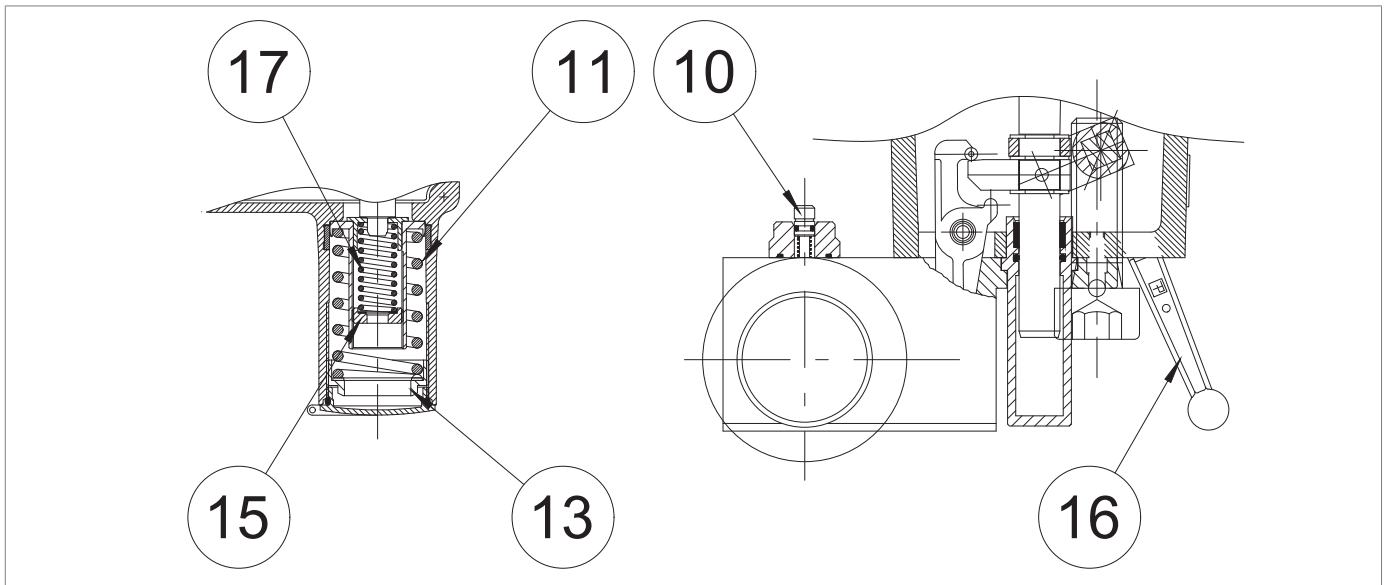

Fig. 8.38. Pressure switches models 102M/102MH - 105M/105MH
2	<p>Check that the slam-shut valve is in the shut-off position.</p> <p>! NOTICE!  If the slam-shut valve is in the open position, close it using the manual button (Fig. 8.38, ref.10).</p>